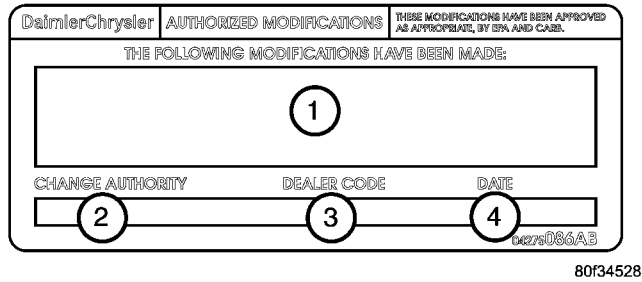

Fig. 1 AUTHORIZED MODIFICATION LABEL
23. Type the necessary information on the "Authorized Modification Label" p/n 04275086AB and attach near the VECI label (Fig. 1).